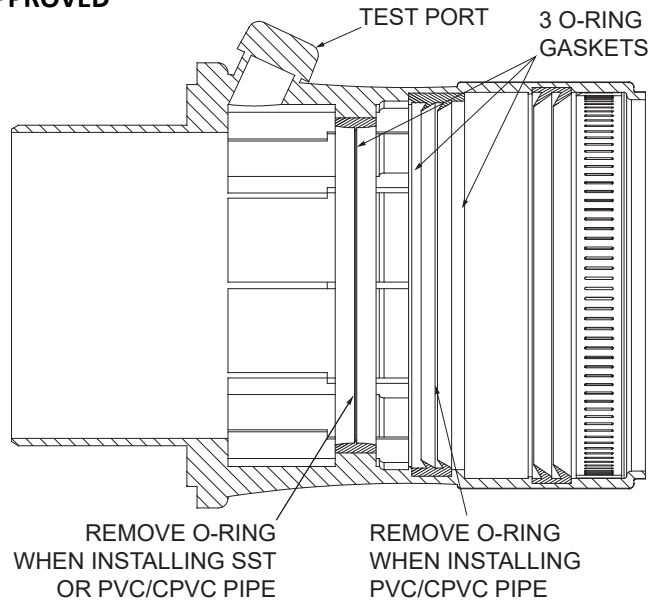

Figure 13. Multi-Vent Adapter
**NOTE:** Remove the unused gaskets from the 3 in 1 appliance vent adapter. For example, when using the supplied PVC vent pipe remove the inner two gaskets. See Figure 13.